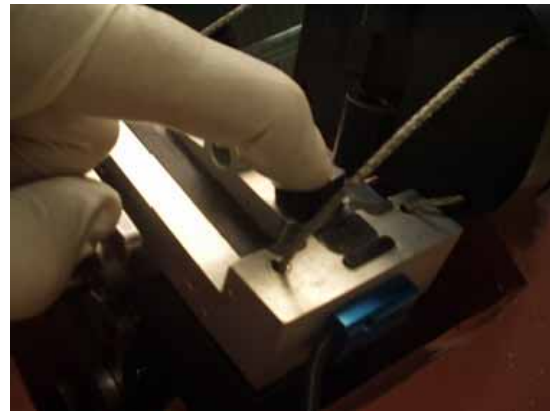
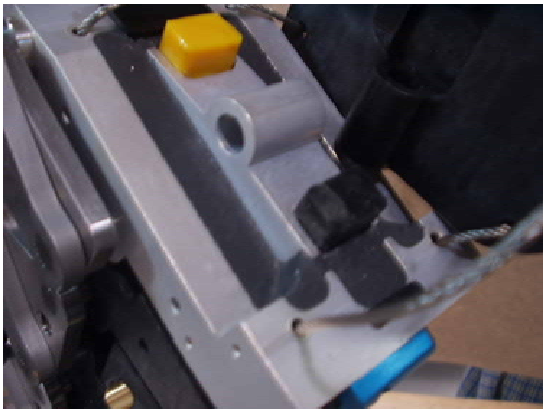

Figure 111 - Press and Hold Bumper
Figure 112 - Hold for 10 Seconds
16. While wearing protective gloves, immediately place new bumper in cavity, on top of loctite 401 (Figure 111). It will be positively located as cavity is approximately the same shape as the bumper. Press downward on bumper with finger for 10 seconds to bond (Figure 112).